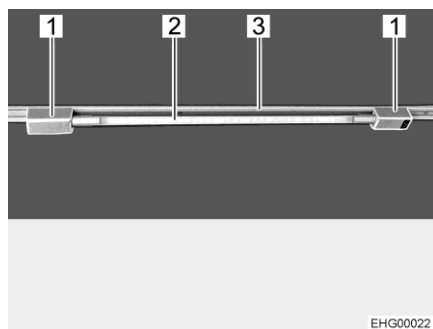

Fig. 27 Fluorescent tube
- Insert both brackets (Fig. 27,1) into the rail (Fig. 27,3). In order to do this, turn bracket through 90°.
- Plug lamp body (Fig. 27,2) into one of the brackets.
- Turn lamp body handle (Fig. 27,2) until the desired lighting effect is achieved.